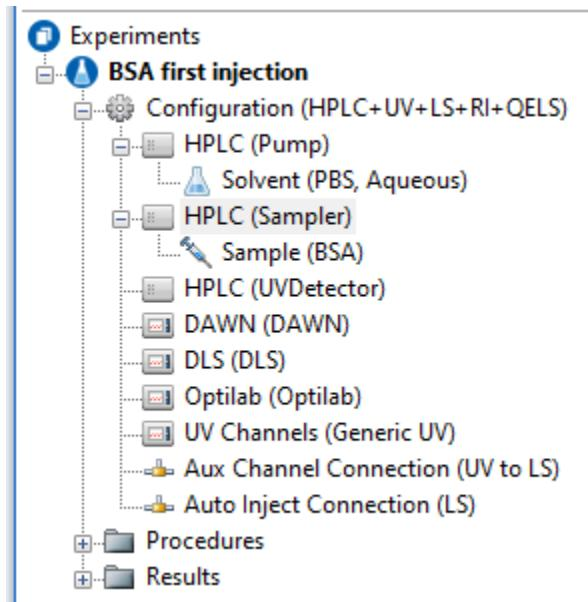
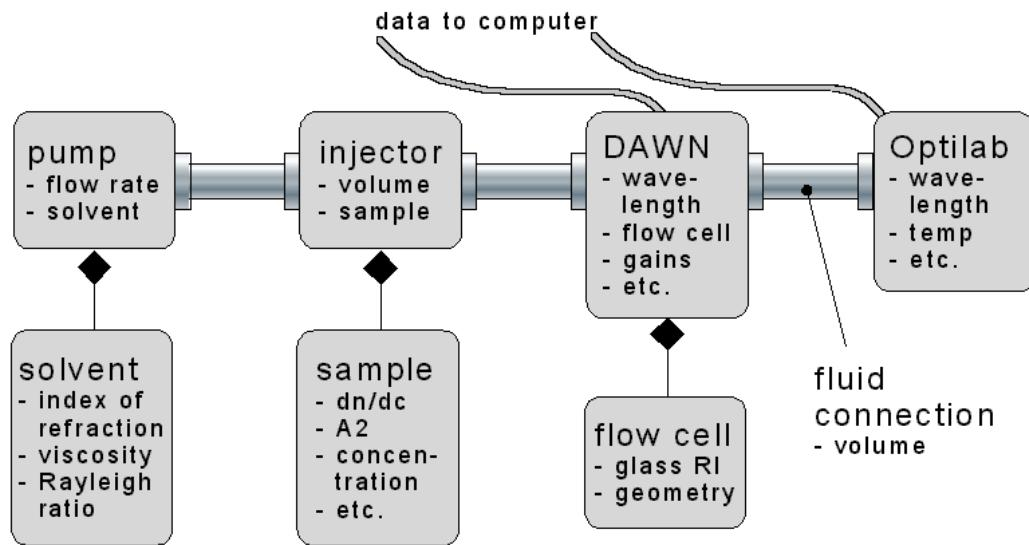

Figure 8-1: Configuration for an LS Online Experiment
Figure 8-2: Hardware Connections for LS Online Experiment Setup
A configuration for an online light-scattering experiment is set up as shown in Figure 8-1. The same experiment is shown in the schematic of Figure 8-2. Comparing these two figures highlights the logical structure of the configuration and its constituent profile elements in the workspace.
The hardware setup for the configuration in Figure 8-1 would be organized similar to Figure 8-2:
1. Double-click on a component in the Configuration node of the Experiments navigation pane. This opens the properties page and selects the tab for that component. See Figure 8-1 for an example.